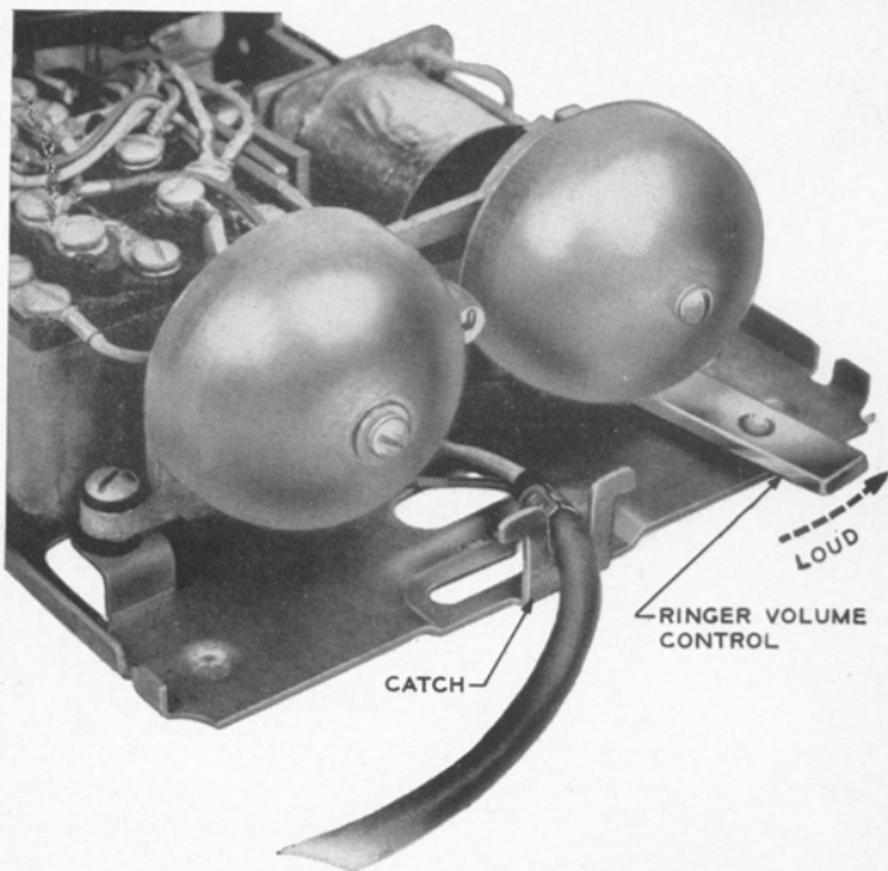

Fig. 3—Interior View of the Set Showing Ringer Volume Control
- 2.06 The ringer volume is manually controlled by a lever extended through the bottom of the housing (see Fig. 3).